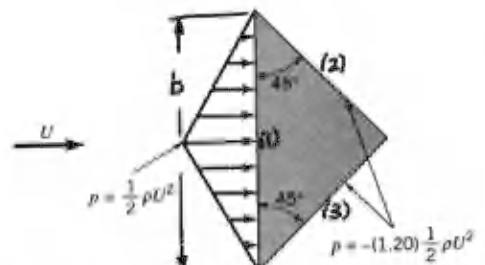

FIGURE P9.1R
9.1R (Lift/drag calculation) Determine the lift and drag coefficients (based on frontal area) for the triangular two-dimensional object shown in Fig. P9.1R. Neglect shear forces.